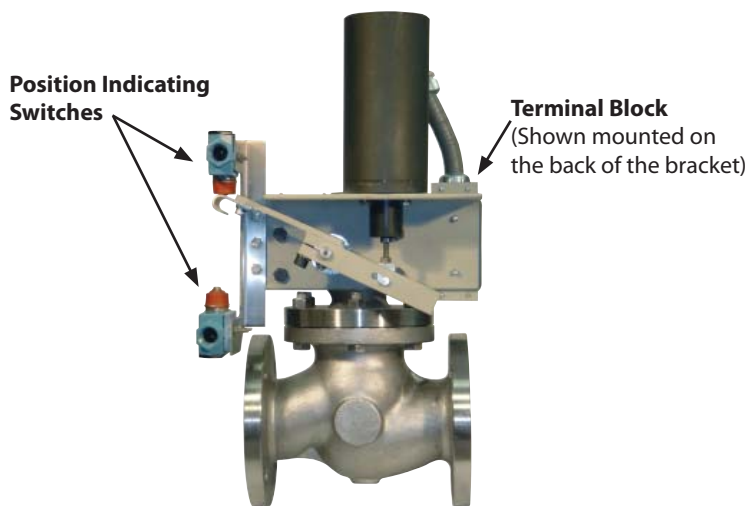

Figure 1
- Watertight and/or Explosion-Proof Enclosures (see **Figure 1**)
- Mounted on the back of the bracket (see **Figure 1**) or other suitable location.